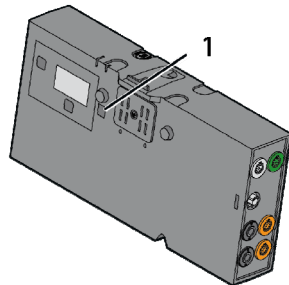

Fig. 10-5 Patient box, infrared interface
7. Wipe the infrared interface of the patient box with a cloth (see Fig. 10-5, item 1).